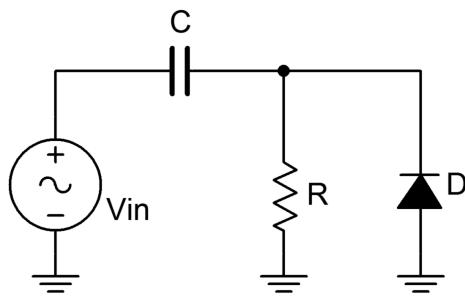

Figure 2
4. Consider the circuit of Figure 2 using $V_{in} = 5$ volts peak at 1 kHz, $R = 100 \text{ k}\Omega$ and $C = 100 \text{ nF}$. Determine the input signal's period and the RC time constant. Record these values in Table 2. For a large time constant, the capacitor voltage can be thought of as stable, basically a DC voltage. Initially, this voltage is zero. On the positive input half-wave, the diode is reverse biased and all of the signal drops across the resistor. On negative portions though, the diode is forward biased, limiting the output voltage to within one diode drop of ground. Also, the capacitor will begin to charge, eventually reaching the peak voltage of the input. This potential will add a DC offset to the input signal resulting in a clamped output.
5. Build the circuit of Figure 2 using $R = 100 \text{ k}\Omega$ and $C = 100 \text{ nF}$. Set V_{in} to a 5 volt peak sine at 1 kHz. Set the scope inputs to DC coupled and apply the probes to the input and output points. Record the positive and negative peak values of the output waveform in Table 3.